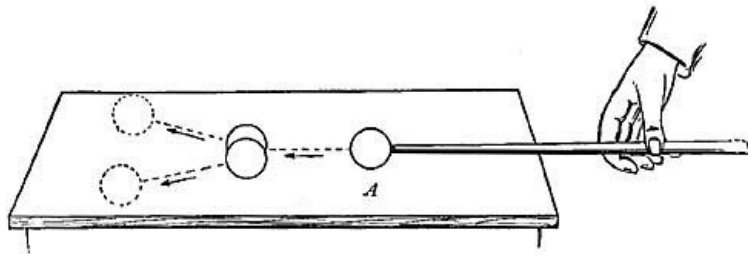

FIG. 170.—When a ball meets more than one ball, it divides its motion.
**253. Why Sound dies away with Distance.** Since the last ball *B* is driven outward with a force nearly equal to that possessed by *A*, it would seem that the effect on the ear drum should be independent of distance and that a sound should be heard as distinctly when remote as when near. But we know from experience that this is not true, because the more distant the source of sound, the fainter the impression; and finally, if the distance between the source of sound and the hearer becomes too great, the sound disappears entirely and nothing is heard. The explanation of this well-known fact is found in a further study of the elastic balls (Fig. 170). If *A* hits two balls instead of one, the energy possessed by *A* is given in part to one ball, and in part to the other, so that neither obtains the full amount. These balls, having each received less than the original energy, have less to transmit; each of these balls in turn meets with others, and hence the motion becomes more and more distributed, and distant balls receive less and less impetus. The energy finally given becomes too slight to affect neighboring balls, and the system comes to rest. This is what occurs in the atmosphere; a moving air particle meets not one but many adjacent air particles, and each of these receives a portion of the original energy and transmits a portion. When the original disturbance becomes scattered over a large number of air particles, the energy given to any one air particle becomes correspondingly small, and finally the energy becomes so small that further particles are not affected; beyond this limit the sound cannot be heard.